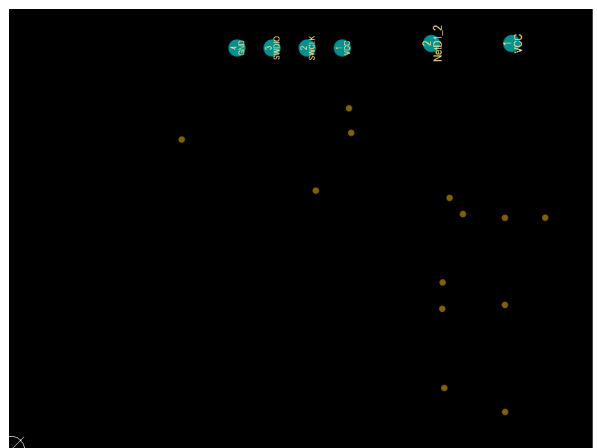

Figure 9. Bottom Silkscreen Overlay
- Figure 9. Bottom Silkscreen Overlay 7